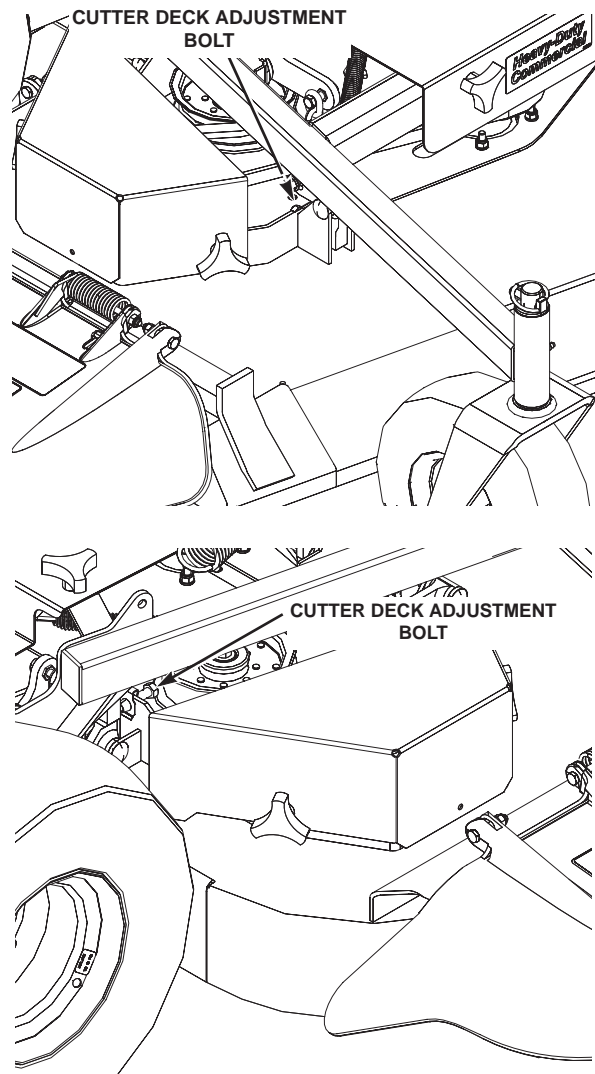

Figure 6-3 Cutter Deck Level Adjustment
1. On the front RH side of the cutter deck locate the cutter deck adjustment levers. Loosen the elastic stop nuts securing the cutter deck adjustment levers on the front and rear of the cutter deck. (See Figure 6-3)
- A. Loosen the elastic stop nuts securing the deck level links on front of the cutter deck on both sides (See Figure 6-3, Page 24 and Figure 6-4, Page 25 for Cutter Deck Adjustment Lever Location).
- A. Loosen the elastic stop nuts securing the deck level links on front of the cutter deck on both sides (See Figure 6-3 and Figure 6-4 for Cutter Deck Adjustment Lever Location).